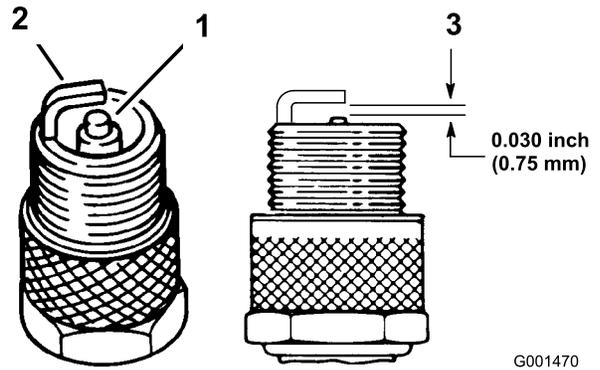

Figure 25
- Check the gap between the center and side electrodes (Figure 25). Bend the side electrode (Figure 25) if the gap is not correct.
- Look at the center of the spark plugs (Figure 25). If you see light brown or gray on the insulator, the engine is operating properly. A black coating on the insulator usually means that the air cleaner is dirty.
3. Connect the wires to the spark plugs (Figure 25).